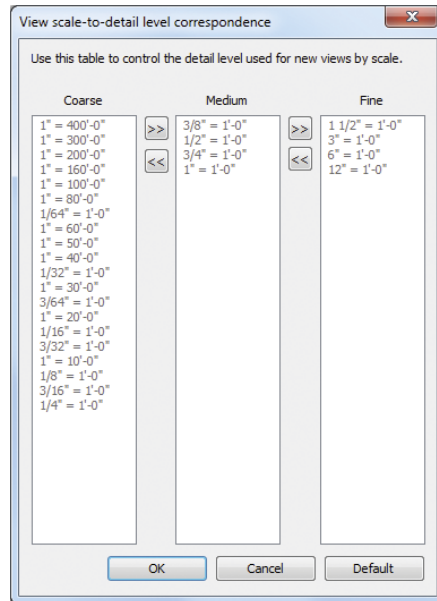

FIGURE 6.4 View Scale-To-Detail Level Correspondence settings
- To adjust the settings for displaying information at different scales, navigate to the Manage tab under Additional Settings > Detail Level, as shown in Figure 6.4. Click OK to close the dialog when complete.
In the Detail Level settings, you can choose which view scales use one of three detail levels: Coarse, Medium, or Fine. Based on the scale of the view when a view is first created, some elements will automatically display or hide. But to take advantage of this power, you must make sure the content in your project has the appropriate view scale-to-detail level correspondence. You should also know that the Detail Level and View Scale parameters are separate properties of project views. Thus, if you change the scale of a view, the detail level does not automatically change. The settings shown in Figure 6.4 are automatically applied only when a view is first created.